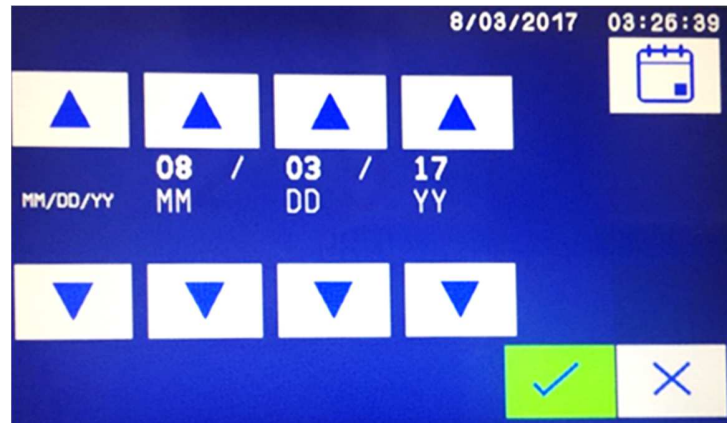
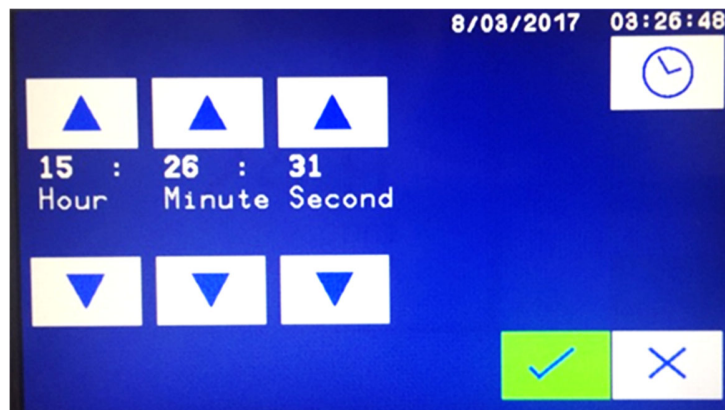
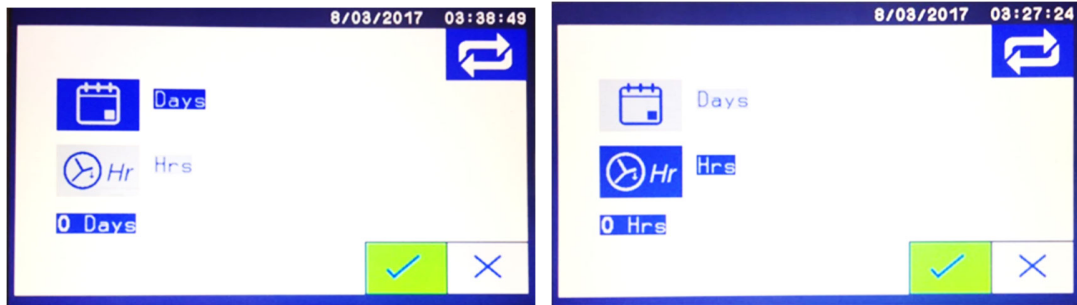

Figure 12-19: Auto-calibration Date setup screen
Figure 12-20: Auto-calibration Time of Day setup screen
Figure 12-21: Auto-calibration Repeat Timing setup screen: Left shows repeat Day, Right shows Hour set
Touch the  icon in Figure 12-19 to accept the Date and take you to the Time screen to set the Hour/Minute/Second for the auto-calibration / auto-validation event.
Touch the  icon in Figure 12-20 to accept the Time and take you to the Repeat Timing screen. This is used to repeat the auto-validation / calibration sequence on a regular basis, every XX Days or every YY Hours.
- For auto-validation or auto-calibration all transducer settings for Date (see Figure 12-19), Time (see Figure 12-20), and Repeat Timing (see Figure 12-21) must be the same.